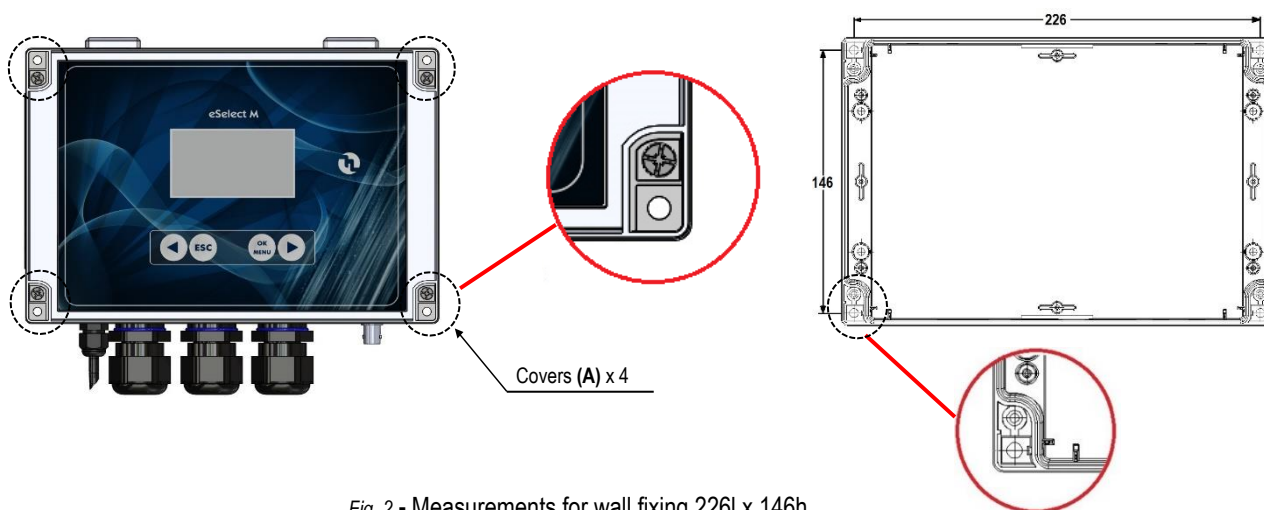

Fig. 2 - Measurements for wall fixing 226l x 146h
Comply with standards in force in the different countries regarding electrical installation (Fig. 2). **If the power cord does not have a plug, the device must be connected to the mains by means of an omnipolar disconnecting switch with at least 3 mm between the contacts. All the power supply circuits must be interrupted before accessing the connection devices.**
The wall-mounting plugs are supplied with the device. **Always use a plug suitable to the available support.** The layout of the holes to be drilled on the support is displayed in Figure 2.
To access the 4 installation holes, remove the covers on the installation points (A) found on each corner of the instrument, use a Phillips screwdriver to loosen the four screws underneath the covers, then open the front panel (see Fig.2).